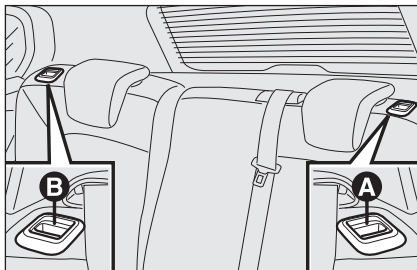

fig. 82
- lift handle **A** or **B-fig. 82** to release respectively the left or right part of the backrest and guide the backrest onto the cushion.
- lift handles **A** and **B-fig. 82** to release the backrests and guide them onto the cushion.